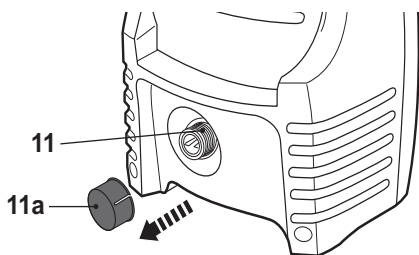

Fig. 11
- > Remove the cap (11a) from the water inlet(11) (Fig. 11).